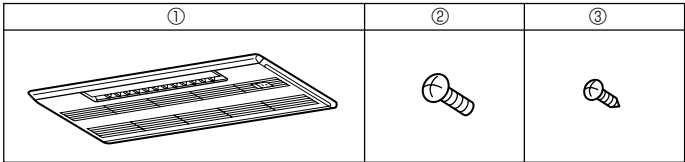

Fig. 5-1
5.1. Checking the contents (Fig. 5-1)